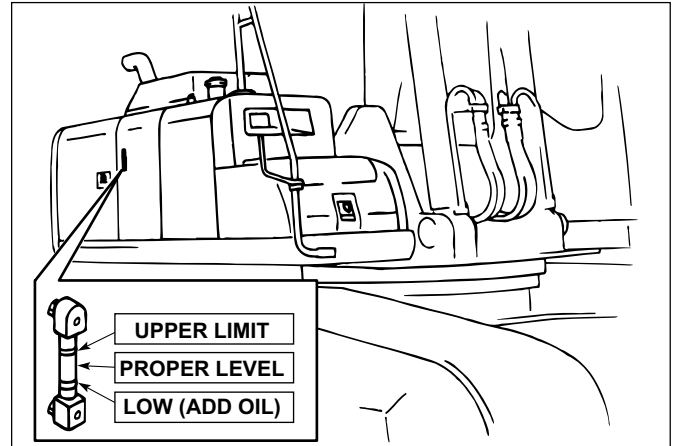

FIGURE 4.16B
2. Check the sight glass through the opening of the hydraulic tank side cover, as shown in Figure 4.16B.
- c. Add hydraulic oil through the return filter, filling hydraulic tank to the proper level. See Figure 4.16B.